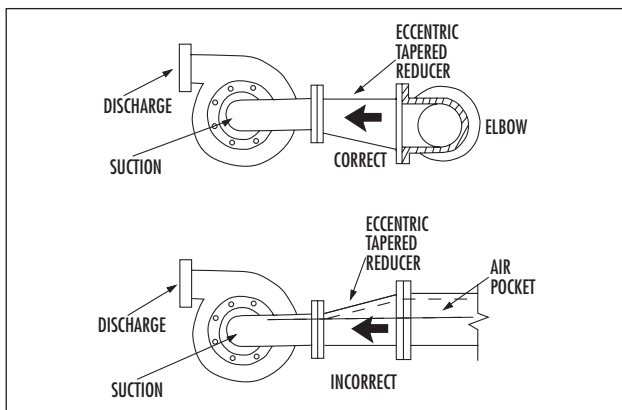

Figure 4. Installation of Tapered Reducers.
**INCREASERS & REDUCERS.** For installations where pump suction flange is smaller than system piping: Eccentric reducers should be installed directly at the suction nozzle, with the taper at the bottom to prevent air pockets from forming. Straight taper reducers should never be used in a horizontal suction line because of the air pocket that is formed at the leg of the reducer and the pipe. *Refer to Fig. 4.*